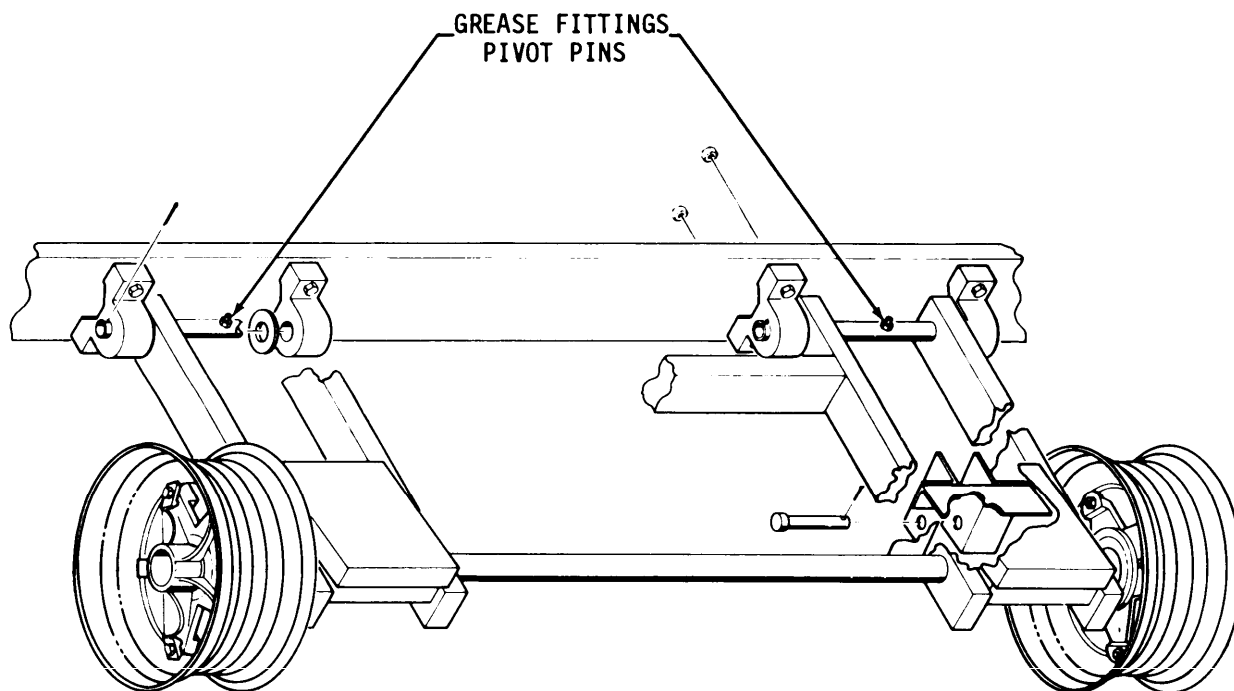
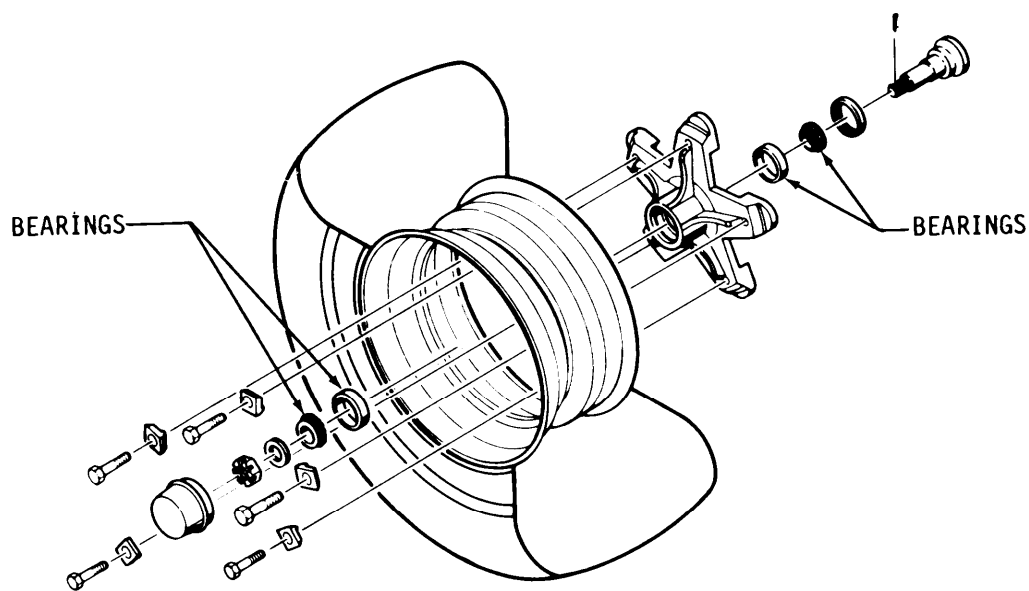

Figure 5-1. Yoke Assembly - Lubrication
Figure 5-2. Hub Assembly - Lubrication
5.2.1 The pivot pin from the yoke assembly (Fig. 5-1) and the wheel bearings, part nos. 18012/18013 and 18047/18048 (Fig. 5-2) shall be lubricated with a waterproof automotive grease, Military Specification MIL-G-10924, or equivalent every six months.